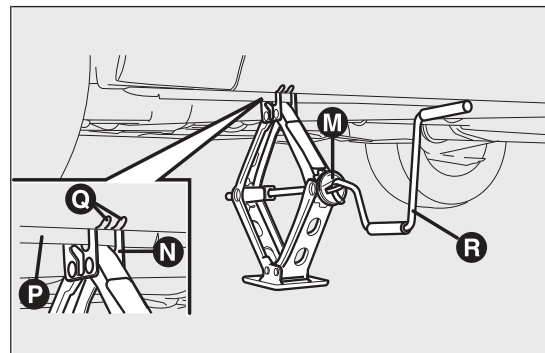

fig. 127
- ❑ operate device M fig. 127 so as to extend the jack, until groove N on the upper part of the jack fits correctly into the lower profile P visible on the car body next to the indication Q (at approx. 72 cm from the centre of the front wheel or 75 cm from the centre of the rear wheel);
- fit handle R fig. 127 to operate the jack and raise the car until the wheel is a few centimetres above the ground;
- turn the jack handle R fig. 127 to lower the car and remove the jack;